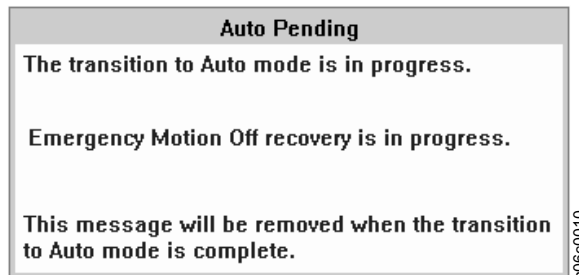

Figure 37. Auto Pending Window
6. The Auto LED on the operator panel flashes until the transition is complete, then stays lit. The Auto Pending window (Figure 37) indicates that the 3494 is changing from Pause mode to Auto mode. **Emergency Motion Off recovery is in progress** will appear in the window for a short time during this transition. When Emergency Motion Off Recovery is complete, the window closes.